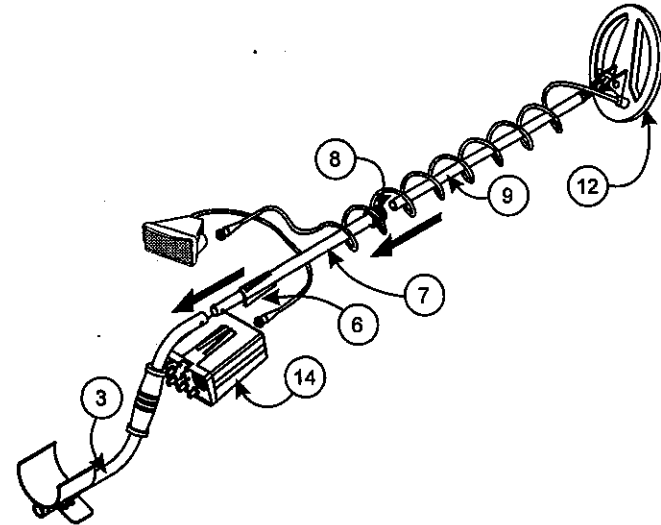

Figure 4 - Completing the shaft assembly
- Slide the intermediate shaft (7) into the upper shaft (3). The black "V" clip (6) must be facing down along the foam handgrip section of the upper shaft (see Figure 4).